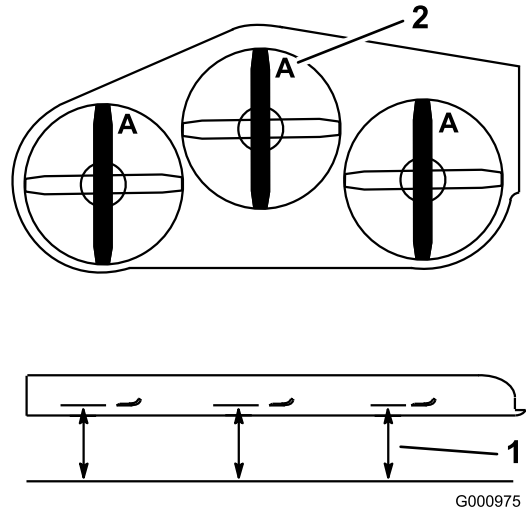

Figure 95
4. Measure from a level surface to the cutting edge, position A, of the blades (Figure 95).